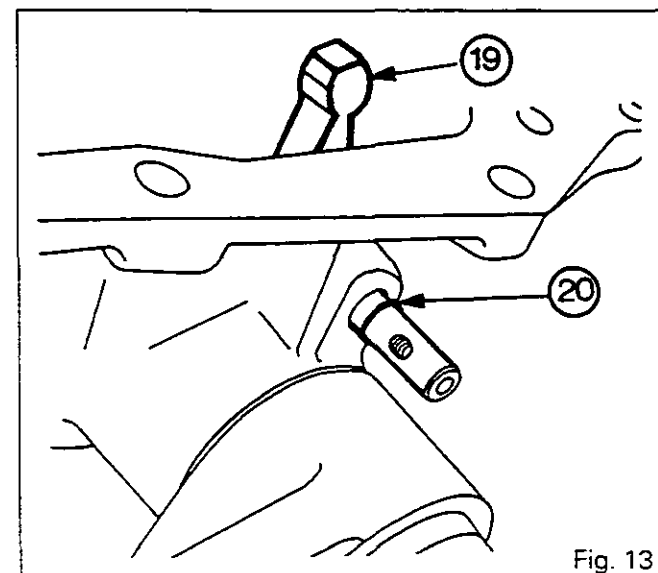

Fig. 13
48. Refit the finger (19) (Fig. 13).
49. Mount the O-ring (20) from the exterior side of the cover (Fig. 13).
50. Smear the screws (18) and (22) with Loctite 241 and tighten.
52. Fit the elbow connector (23).